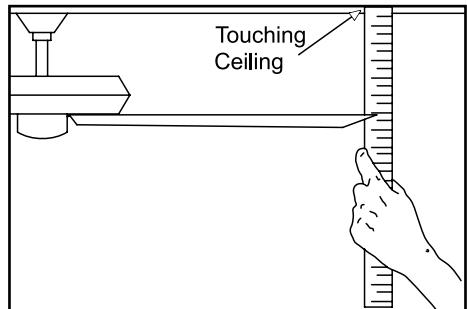

Figure 15
2. Most fan wobble problems are caused when blade levels are unequal. Check this level by selecting a point on the ceiling above the tip of one of the blades. Measure from a point on the center of each blade to the point on the ceiling. Measure this distance as shown in Figure 15. Rotate the fan until the next blade is positioned for measurement. Repeat for each blade. Measurement deviations should be within  $1/8"$ . Run the fan for 10 minutes.